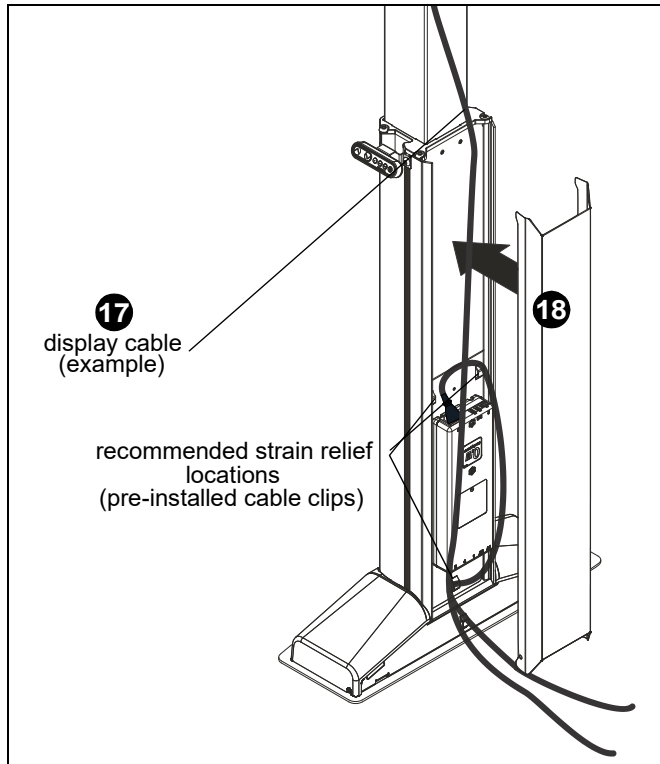

Figure 10
17. Attach display and signal cables to power source. Use cable ties (K) to route as necessary. (See Figure 10)
18. Reinstall back cover to column assembly (P). (See Figure 10)